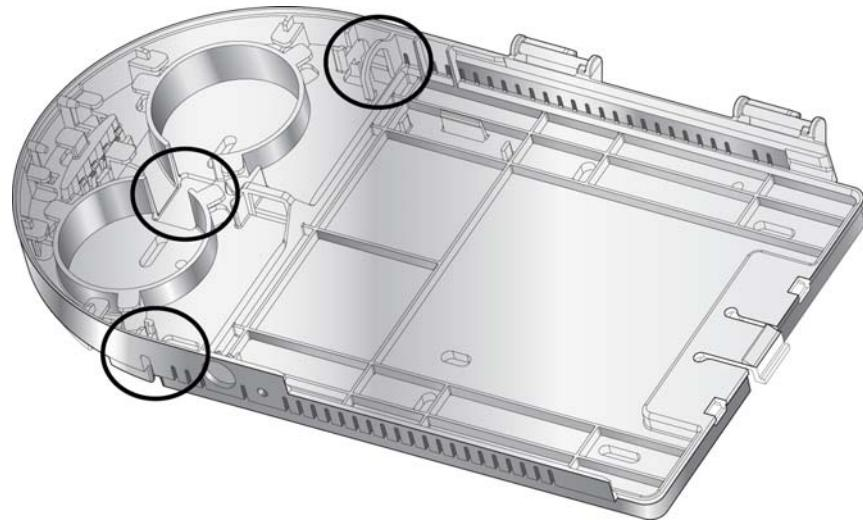

Figure 2: Empty unit with the fiber cable points-of-entry identified.
- Determine the point-of-entry for the fiber: bottom, top or rear of the unit. (Figure 2)